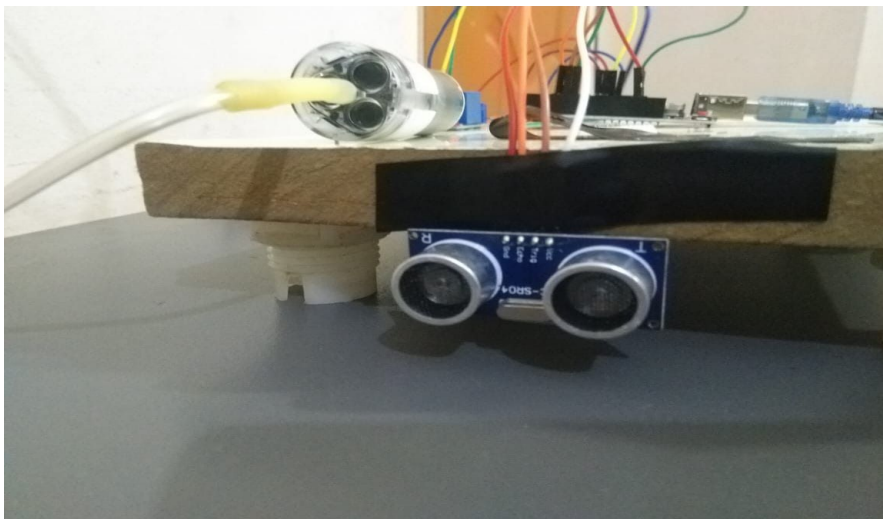

Figure 2 : Ultrasonic sensor
- Ultrasonic Sensor (figure 2)